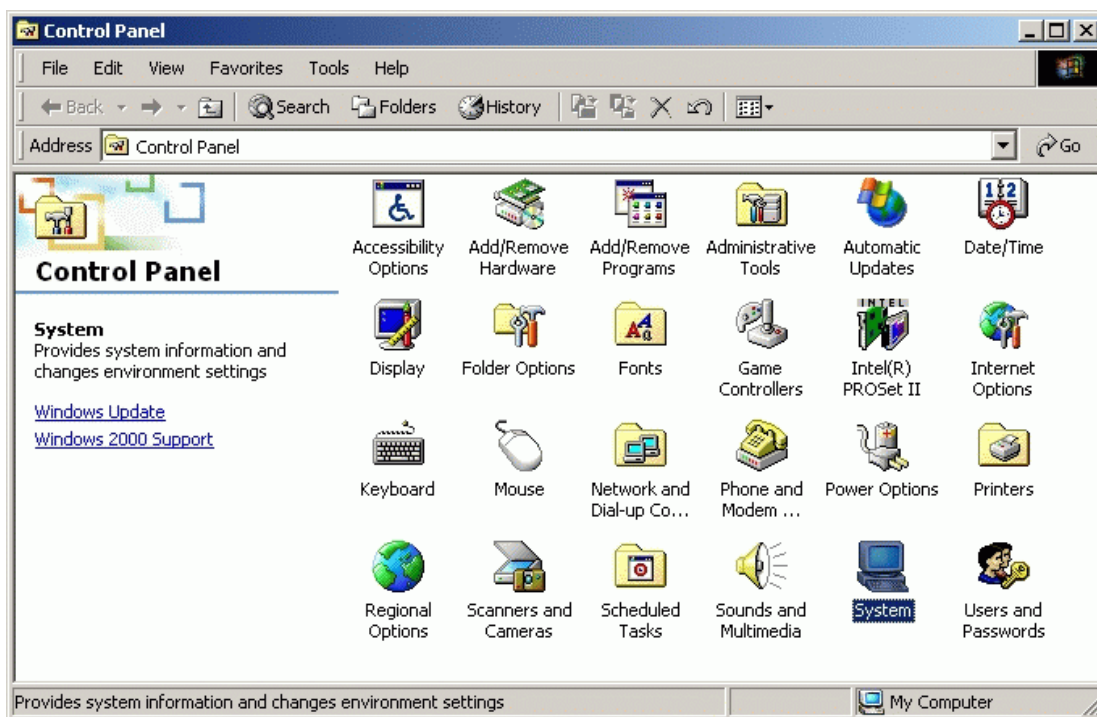

Figure 2-50 Control Panel Window
1. At the Windows 2000 desktop, click *Start* at the left side of the task bar (bottom of the desktop), then select *Settings*, then *Control Panel*. The *Control Panel* window displays (Figure 2-50).
1. At the Windows 2000 desktop, click *Start* at the left side of the task bar, then select *Settings*, then *Control Panel*. The *Control Panel* window displays (Figure 2-50 on page 2-58).